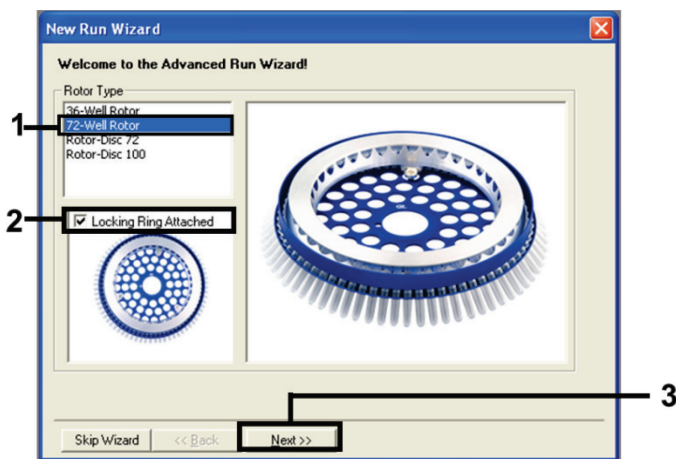

Figure 1. The “New Run Wizard” dialog box.
3. Select 72-Well Rotor as the rotor type. Ensure that the locking ring is attached and check the **Locking Ring Attached** box. Click **Next** (Figure 1).